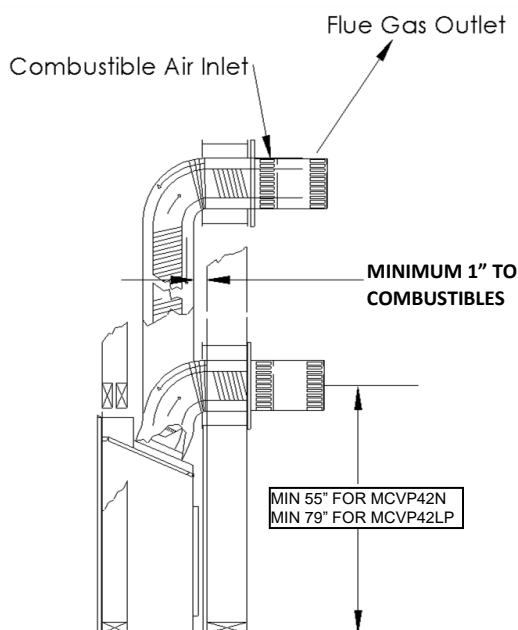

Figure 1
Place the spring spaces provided approximately every two feet to stabilize 5" flex in the center of 8" flex. When forming bends place spring in bend or before and after. (See Fig. 1). Horizontal runs require support metal straps every 2 feet. In offset installation support straps should be used to stabilize pipe.
Expand 5" and 8" flex pipe to the point that the 8" protrudes approximately 2 to 3 inches past outer wall and the 5" flex protrudes approximately 2 to 3 inches past the 8" flex. (See Fig. 1). Attach the 5" pipe to the termination first and secure with sealant and screws then attach the 8" flex to the termination with caulking and screws. Termination may then be moved back to the outer wall and attached to home screwing into the framing. Silicone around termination to waterproof. If siding shield is going to be used attach this using same attaching hole as the top of termination after termination has been caulked for water proofing.
4. To install wall thimble center over 12" x 12" (inch) framing from both sides of wall and secure. Route flex vent pipe through wall thimble (See Figure 1).
8. Support horizontal pipes every two (2) feet (61 cm) with metal strap bands. Re-check fireplace to make sure it is levelled and properly positioned and secured.